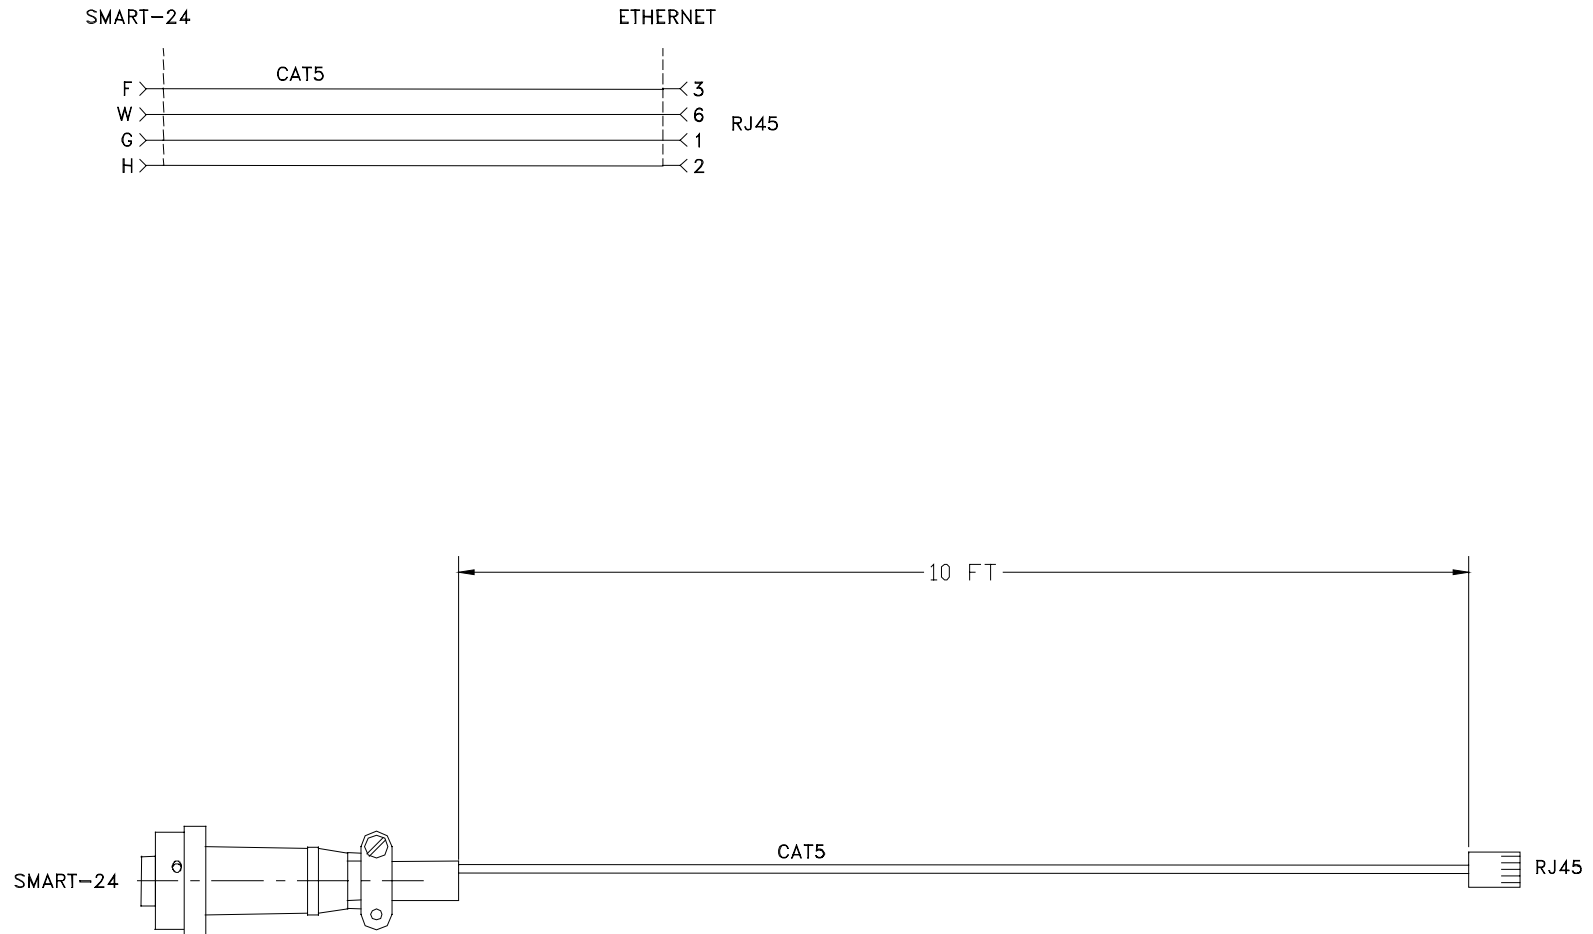

Figure A-4. SMART-24 I/O Cable, Ethernet Only
- Figure A-4. SMART-24 I/O Cable, Ethernet Only